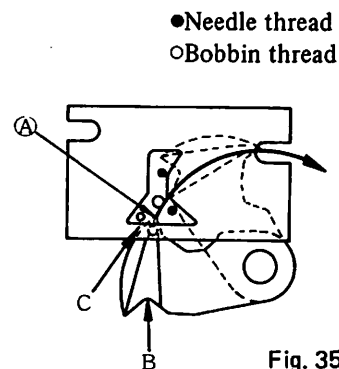

Fig. 35
Remove burrs from the relevant part of the thread trimmer components as shown in Fig. 35. The cause of trouble can be detected by examining the shape of the cut thread pieces as shown below. As long as the threads are normally trimmed, the cylinder arm cap will not gather the cut thread pieces.
- B. With a properly adjusted moving knife, the trajectory shown by thread hooking point A passes the inside of the needle hole as shown in Fig. 35.